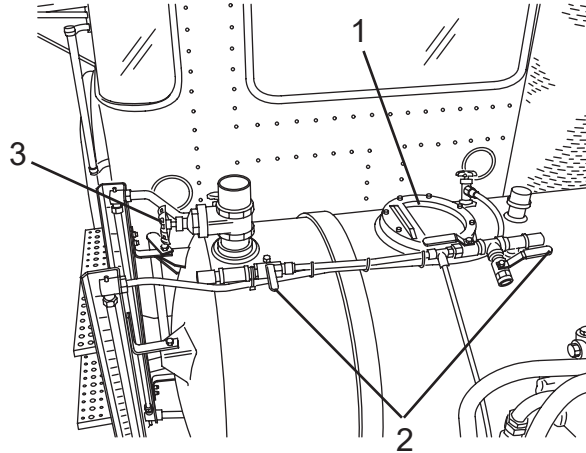

Figure 148
6. Check flopper valve (Figure 148, Item 1) for free movement, and make sure it seats properly.
7. Check valves (Figure 148, Items 2 and 3) to make sure they move freely.